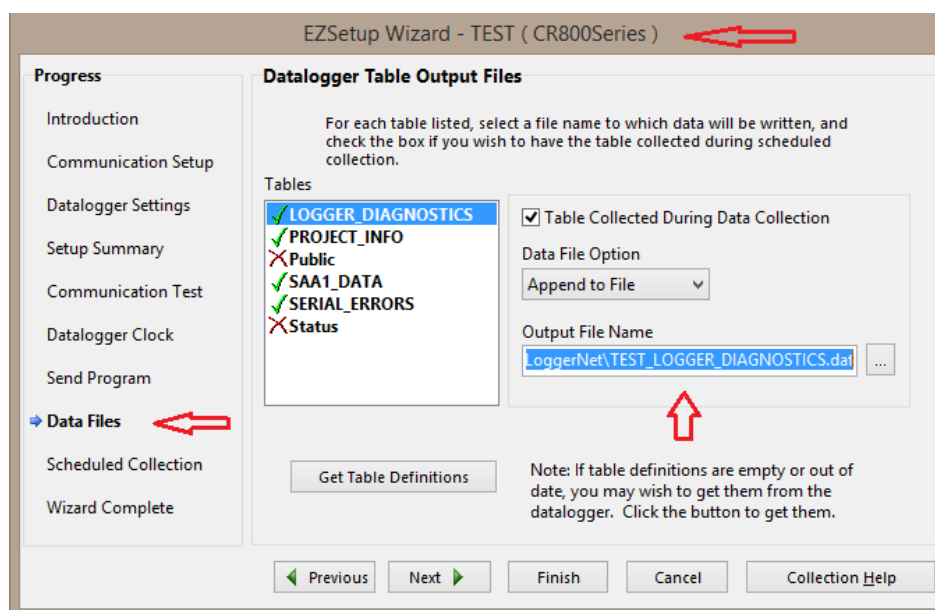

Figure 4.20: Specifying the destination of data files using the LoggerNet 'Setup' utility.
It is critical that the data files generated by the CS Data Logger are effectively managed. The output folders for CS Data Logger data files are specified under the 'Data Files' tab in the LoggerNet 'Setup' utility (Figure 4.20). By default, the data is stored in the 'C:\CampbellSci\LoggerNet' directory and given a name of "DataloggerName_TableName_#.dat".
3. Click 'Data Files' progress option on the left of the window (**Figure 4.20**).
The 'File Output' option should be set to 'Append to End of File' (**Figure 4.20**). The CS Data Logger keeps track of the last record that was successfully sent to the destination folder. If the output file already exists, the new data will be appended to the end of the file. If the file does not exist or has been moved elsewhere, a new file will be created with all records that have not yet been recorded.